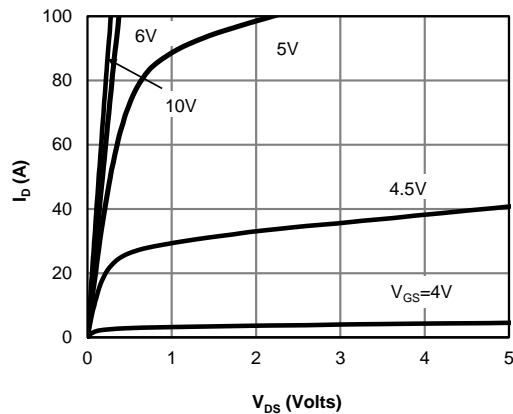

Figure 1: On-Region Characteristics (Note E)
- E. The static characteristics in Figures 1 to 6 are obtained using <300μs pulses, duty cycle 0.5% max.